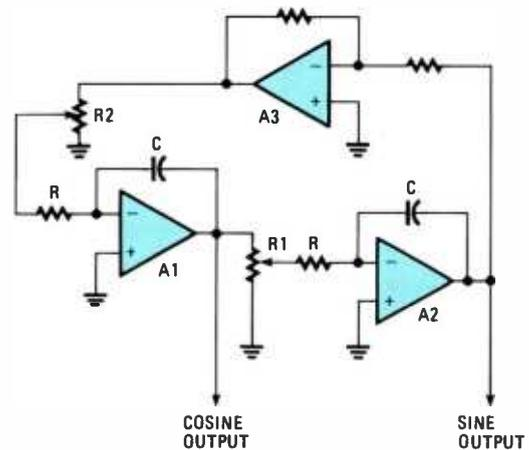

Fig. 21—A quadrature oscillator can be made with op-amp integrators.
37. (AGC) Another way to generate sine-waves is to use an integrator circuit, as shown in Fig. 21. The circuit is called a *quadrature oscillator*. Quadrature refers to two sine-waves 90° out of phase. The circuit produces both sine and cosine waves. (Recall that the integral of sine is $-\cosine$ and the integral of cosine is sine.) Also, op-amp integrators invert.